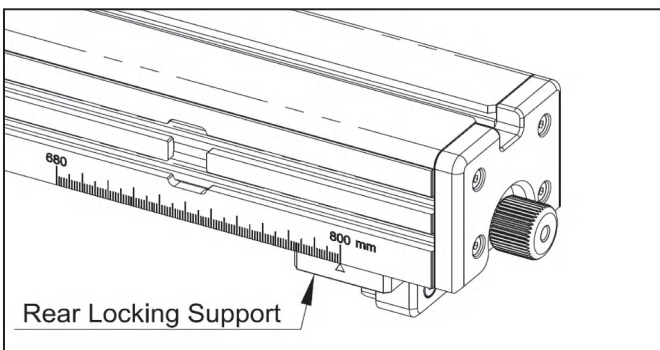

Fig. 6-15
2. In Fig. 6-15, check if the pointer corresponds to the correct position that matches the width (front to rear) of the cast iron main table. The default setting for the pointer is at the 800mm position. If it does not match, you will need to adjust the position of the rear locking support to align the pointer with the correct scale. Follow these steps: